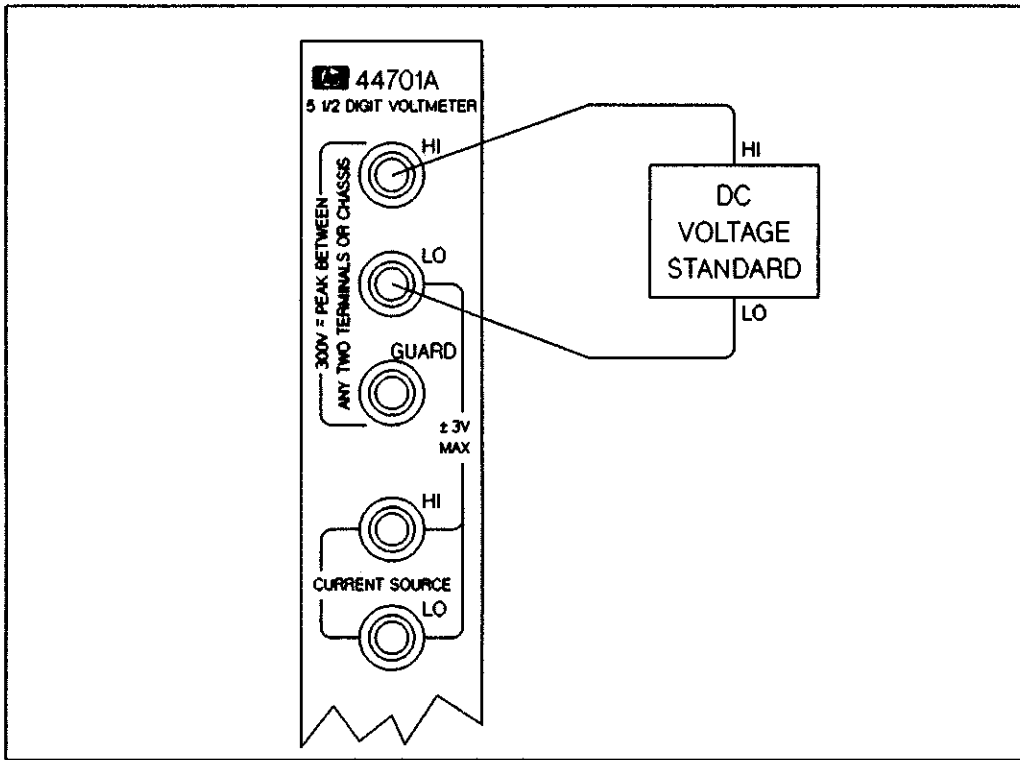

Figure 6-2 DC Voltage Test Connections
12. Set the DC Voltage Standard output to +300 mV. Then connect the DC Voltage Standard to the rear HI and LO Input Terminals of the HP 44701A Integrating Voltmeter accessory. The connections are shown in Figure 6-2.